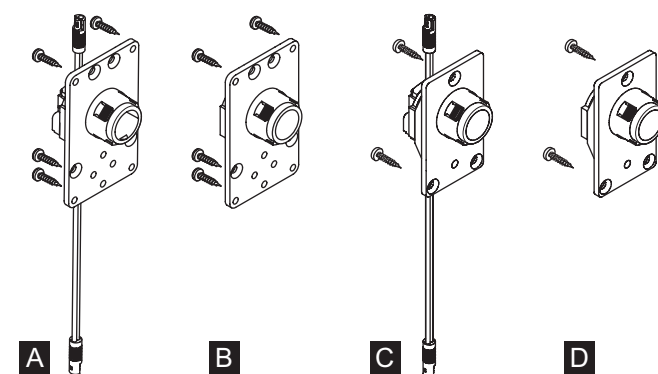

Fig. 2: Version of the various holder sets
- Mono 20 P/L holder set with power cable, electrified (Fig. 2/A) with separate cover clip.
- Mono 20 P/L holder set, non-electrified (Fig. 2/B), with separate cover clip.
- Mono 20 P/L light holder set with power cable, electrified (Fig. 2/C) with separate cover clip.
- Mono 20 P/L light holder set, non-electrified (Fig. 2/D), with separate cover clip.